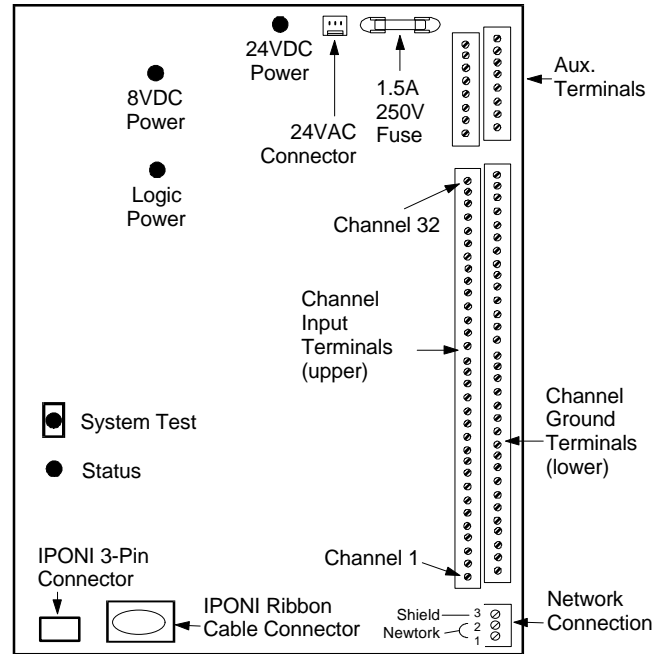
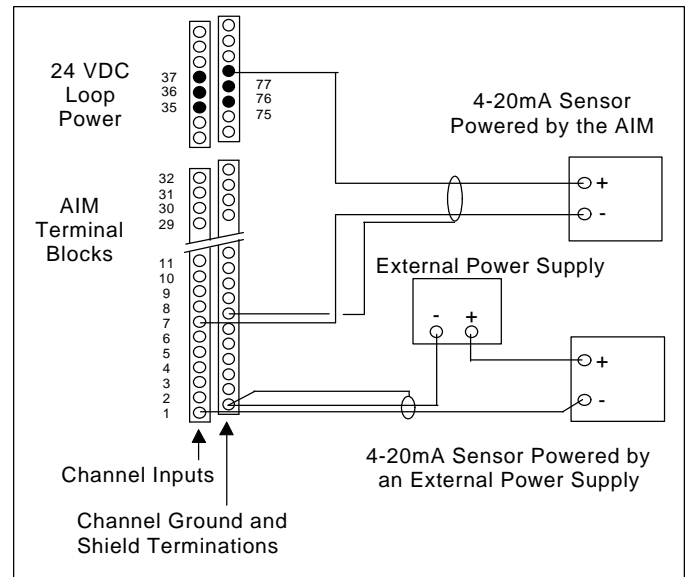

Figure 3 Wiring Connections and Features
Figure 5 General Purpose Sensor Wiring
6) Wiring Connections and Features. Figure 3 shows the wiring connections (other than grounding connections) and major features of the AIM. Wiring connections include 24VAC power, channel input terminals 1-32, channel ground terminals 41-72, auxiliary terminals and communication connections. Channel grounds are electrically common (non-isolated). Auxiliary terminals are as indicated below:
Figure 5 shows wiring connections for general purpose, 0-20 mA or 4-20 mA current loops. Sensors with this signal output can be purchased from many manufacturers to measure virtually any parameter, including temperature, humidity, pressure and flow. The AIM is equipped with a set of voltage source terminals that provide 24VDC loop power, or these sensors can be powered by an external source as shown in Figure 3. In all cases, current loops must be grounded at the AIM.